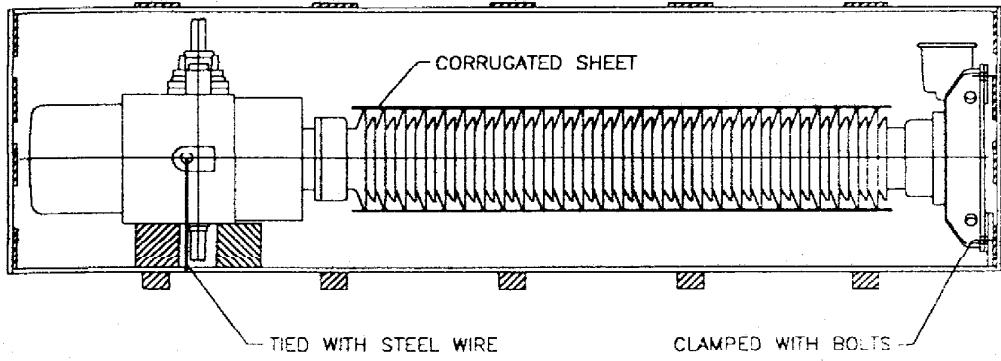

FIG.6
- Please refer to fig. 6 and follow the instructions given therein correctly.